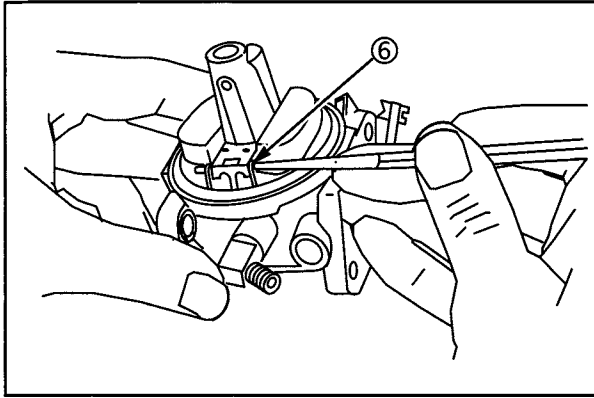

Fig. 24
3. Remove float hinge pin (6), float and inlet needle, Fig. 24.